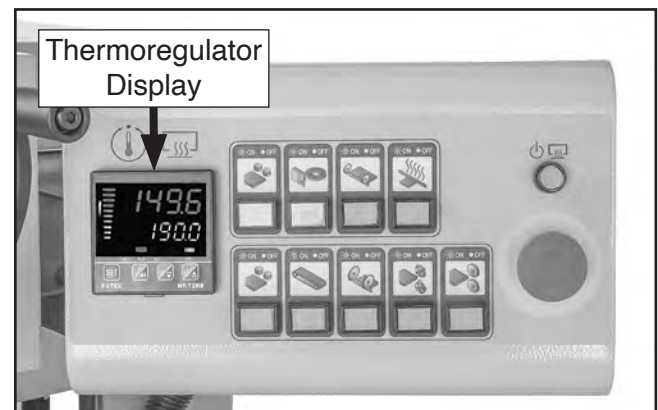

Figure 36. Location of thermoregulator display.
2. Turn main power switch to **OFF** (0) position and press both Emergency Stop buttons in.
6. Turn main power switch to ON (I) position. Thermoregulator display (see **Figure 36**) will illuminate and glue pot will begin heating. Allow glue pot to reach operating temperature before continuing (refer to **Machine Startup** on **Page 34** for more information).